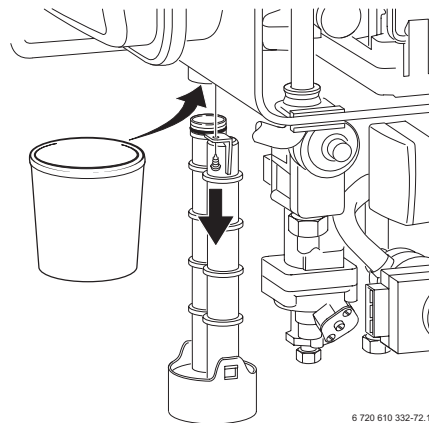

Fig. 50
- Unscrew condensation trap and place suitable container underneath. Refer to fig. 50.
In order to prevent spillage of condensate, the condensation trap should be completely removed, (see page 34, fig. 50).